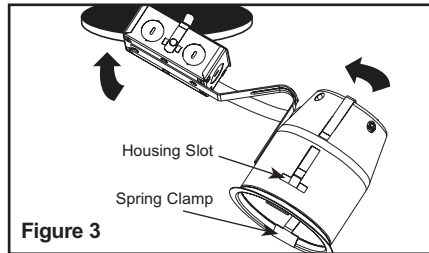
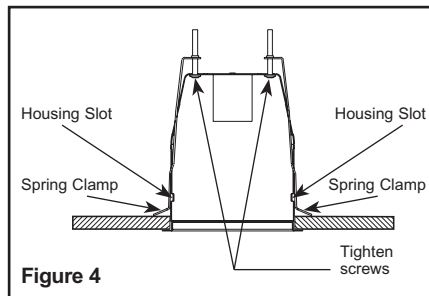

Figure 3
Figure 4
**Step 3.** Position spring clamps inside housing as shown prior to insertion into ceiling, then insert housing through ceiling opening (Fig. 3). Position flange flush to ceiling (Fig. 4). Slide spring clamp ends through housing slots; tighten screws to clamp fixture to ceiling using #2 Phillips or #2 Square driver (Fig. 4).